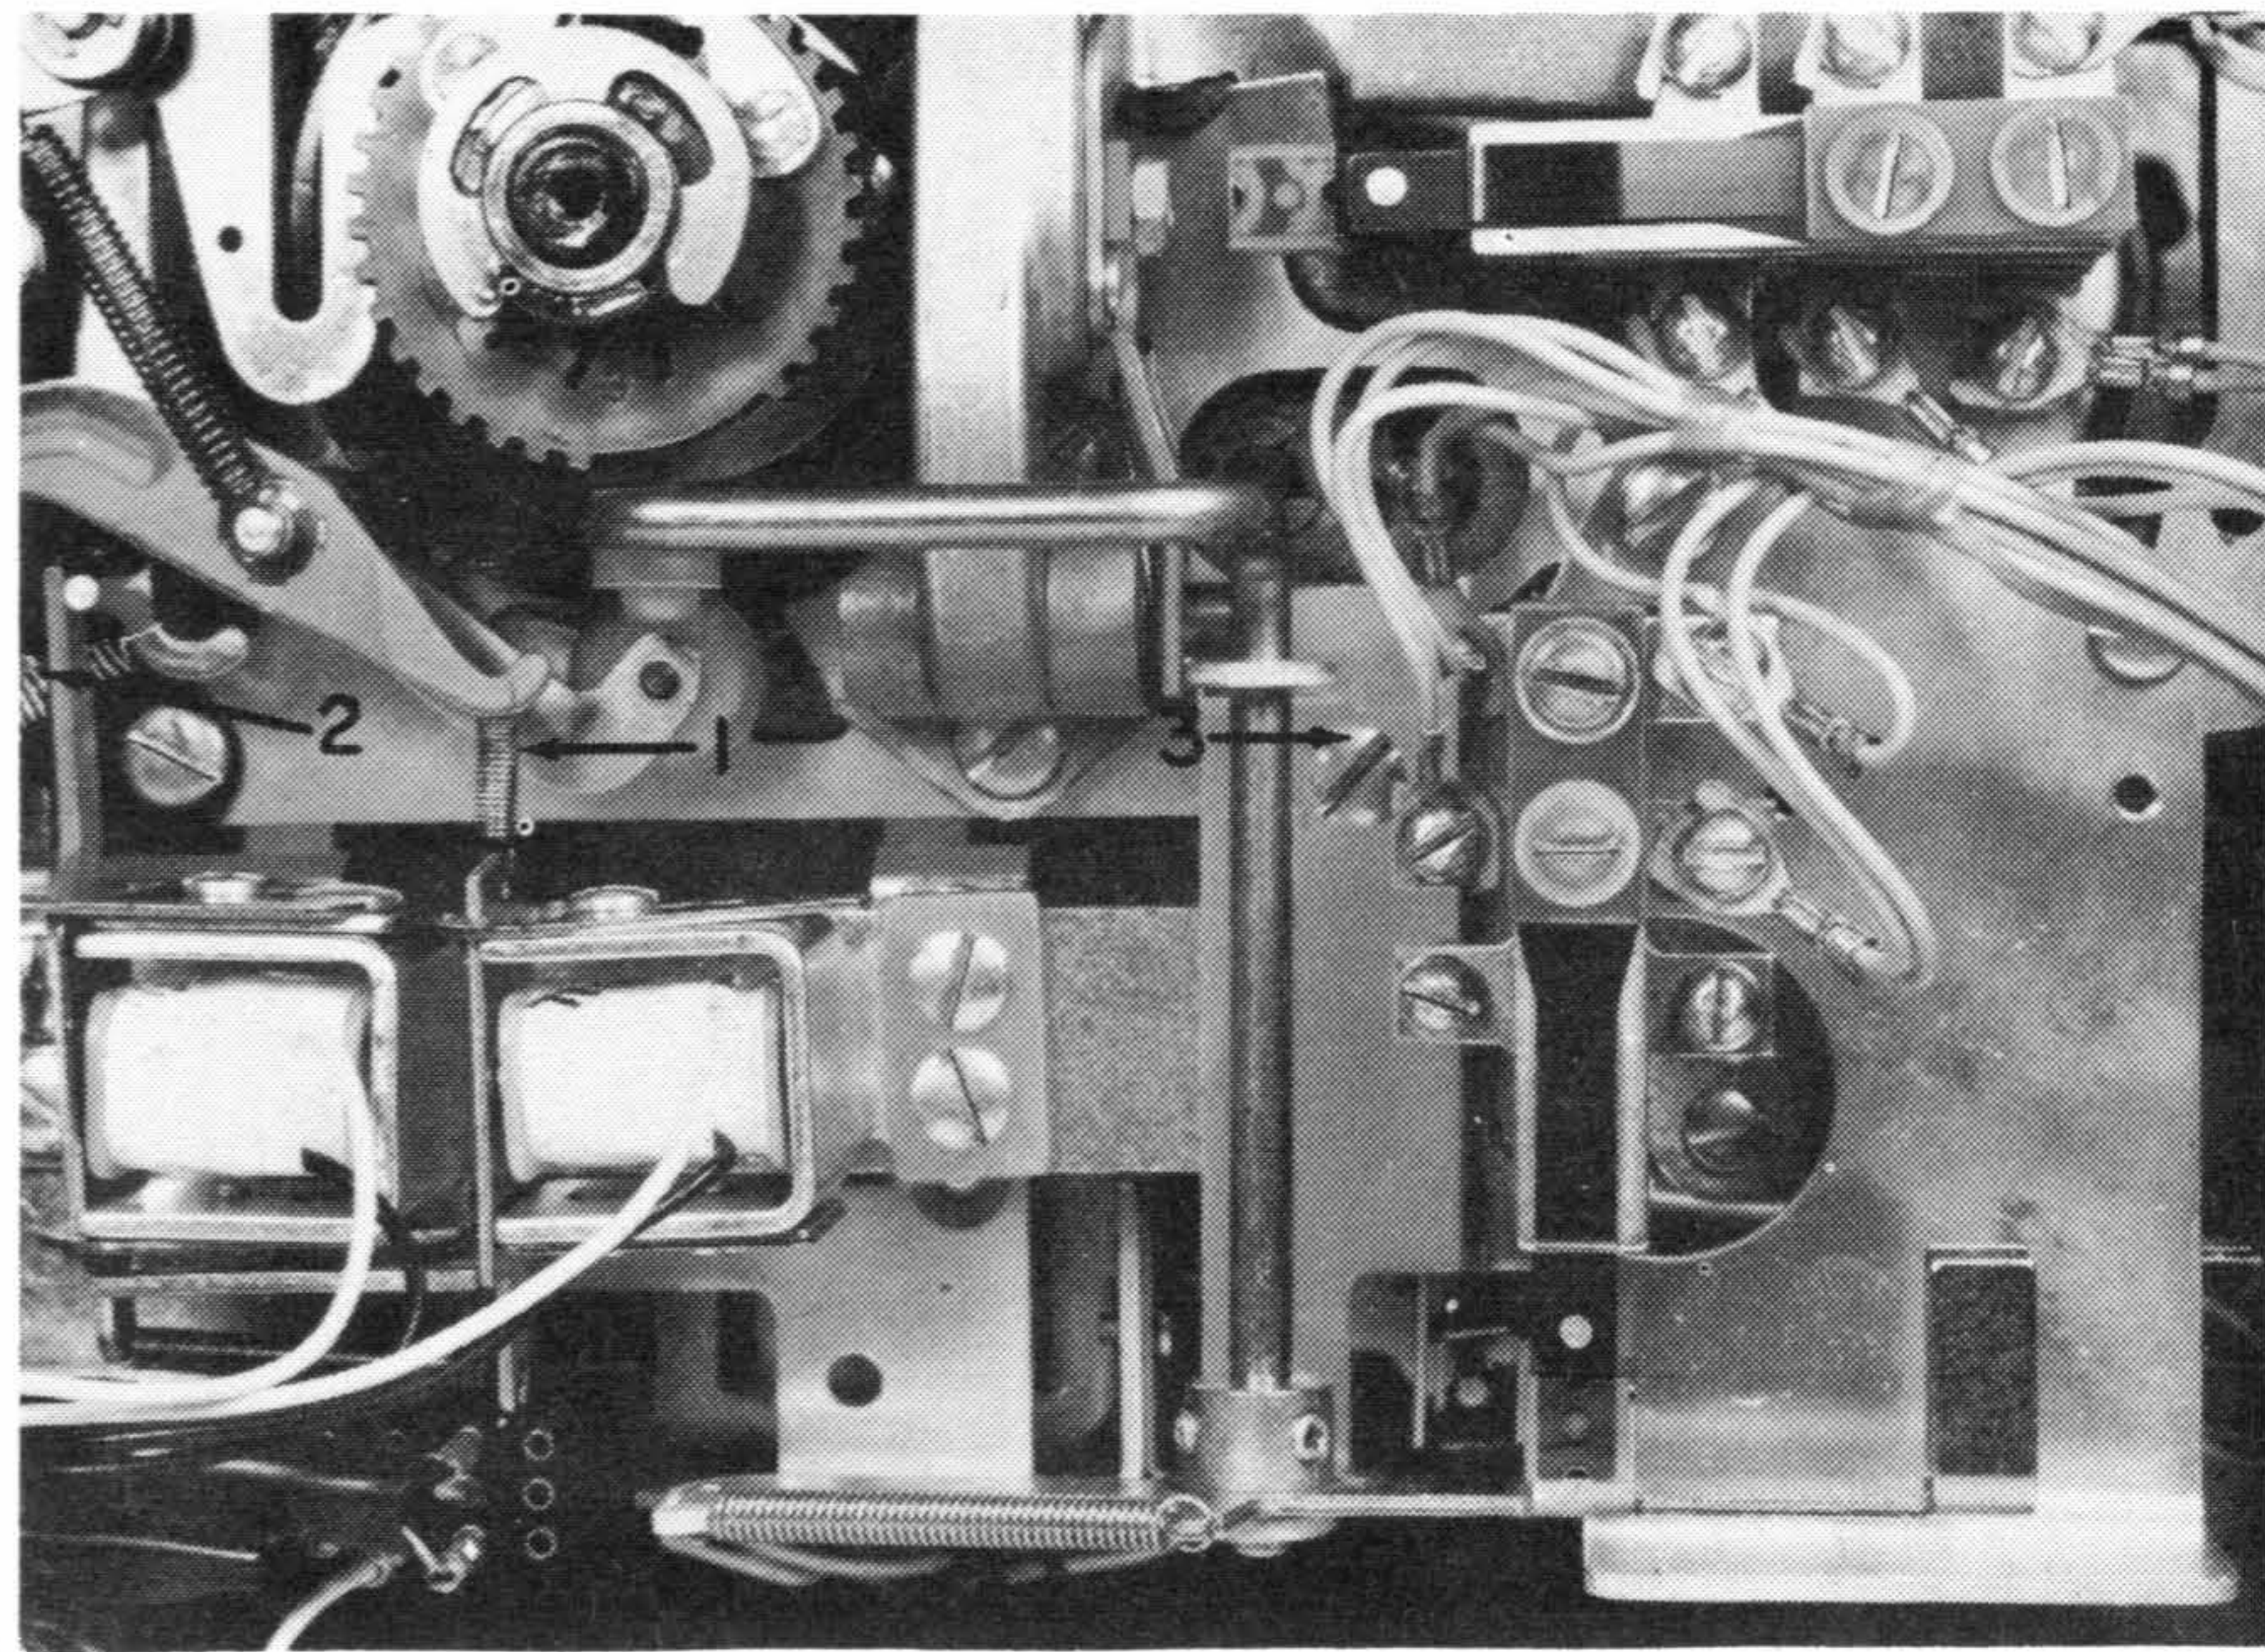

Figure 39. Shift Magnet Assembly Removal
1. Remove the spring from the hold armature (#1, Figure 39).
2. Loosen the front mounting stud (#2, Figure 39).
3. Loosen the rear mounting screw (#3, Figure 39).